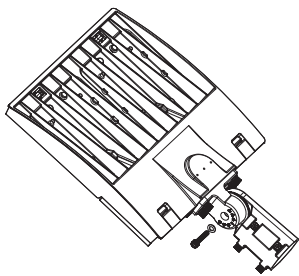

FIG. 5
1. Align fixture head and slipfitter at the desired angle with the knuckle. (See Fig. 5)